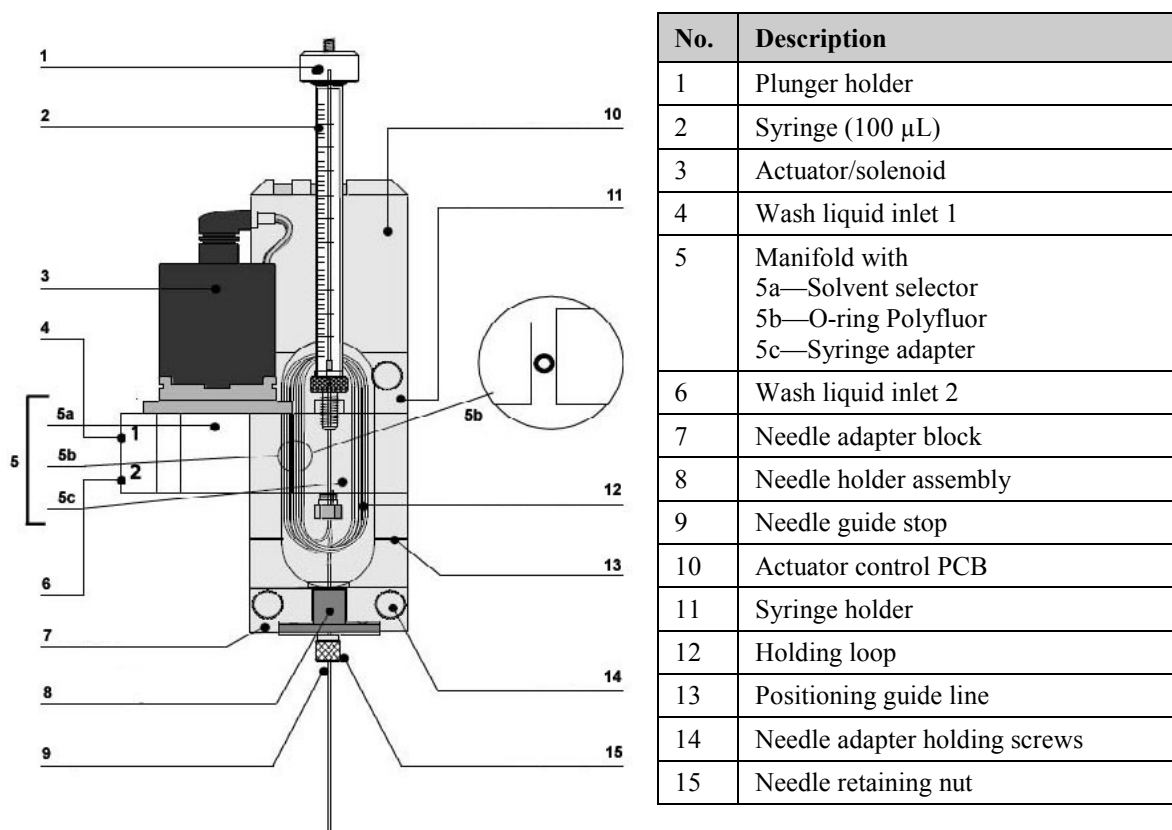

Fig. 19: DLW syringe holder assembly
Fig. 19 provides an overview of the DLW syringe holder assembly.
Loosen the needle retaining nut (→ Fig. 19, page 34), remove the needle from the assembly, and set it aside. Be careful not to lose the retaining nut and the needle seal that is installed on the syringe end of the needle.
- c) Unclick the needle holder assembly (→ Fig. 19, page 34), by pulling it toward the front, insert the needle tip into the needle guide, and then click the needle holder assembly back into place.